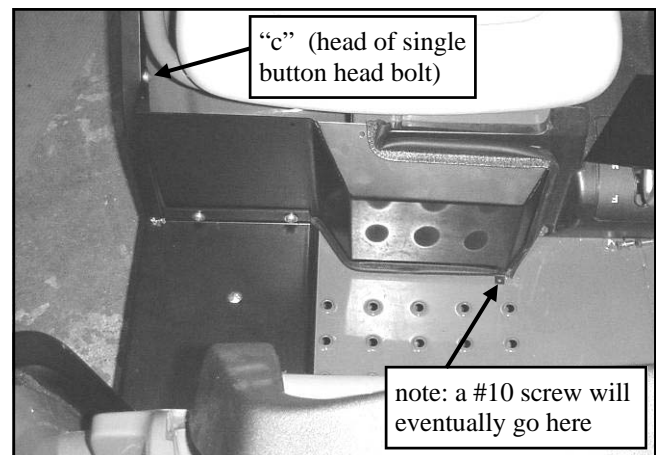

Fig. 9.1
9.1 Install the air intake cover as shown in fig. 9.1 so that the two bolt holes on the left line up with the two bolt holes in the rear bent lip of the floorboard. The air intake cover gets bolted behind the stock thickness of the floorboard. Use two button head bolts  $5/16 \times 3/4$ " long, four steel washers, and two locknuts. Bolt heads to be towards the front of the vehicle.
9.2 Connect the air intake cover to the passenger's side frame tube with one button head bolt  $5/16 \times 3/4$ " long and one steel washer. There is a factory installed threaded insert on the inside surface of the side frame tube in vicinity "c" in fig. 9.1. NOTE: do not install the #10 self-drilling/self-tapping screw in the floorboard of the vehicle until later on when all bolts have been tightened and there are no further adjustments to be made (ref.: step 22.1).